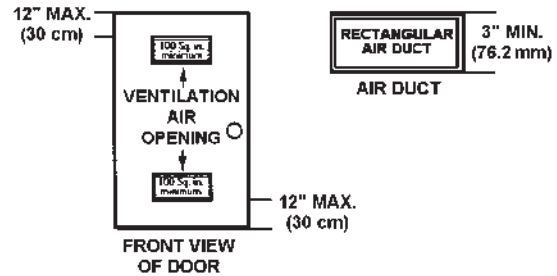

FIGURE 8. VENTILATION CLEARANCES
4. Carefully plan the place where you are going to put the water heater. Correct combustion, vent action, and vent pipe installation are very important in preventing death from possible carbon monoxide poisoning and fires, see **Figure 8** (page 10) and **Figure 12** (page 14).